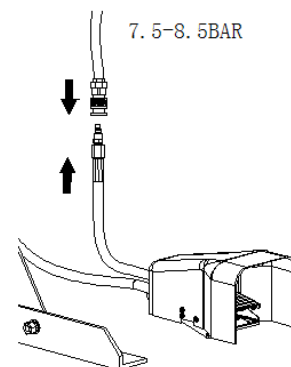

Fig.16
Refer to Fig.16
- 1. Connecting the air hose of air foot valve to the Air source. (fig 16)**